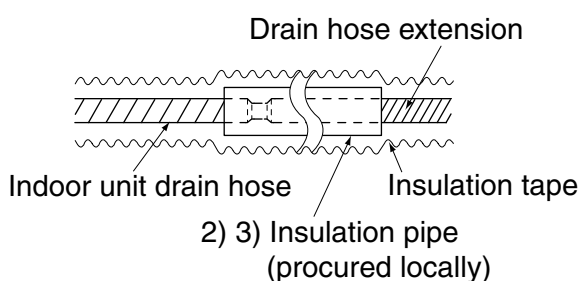

Fig. 16
- When extending the drain pipes, use commercially available extension hose, and be sure to insulate the extended part of the drain hose which is indoors. **(Refer to Fig. 16)**